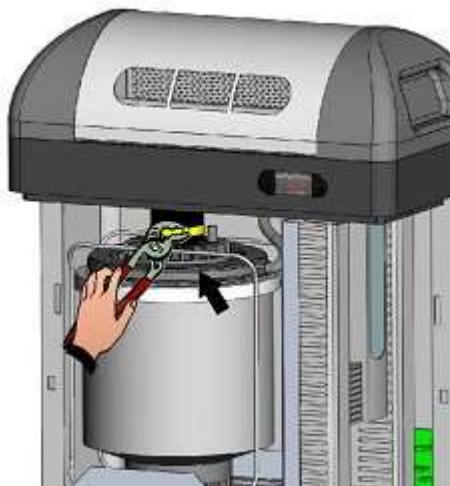

Fig. 5
6. Connect the steam hose to the humidifier flange. (Fig. 5)